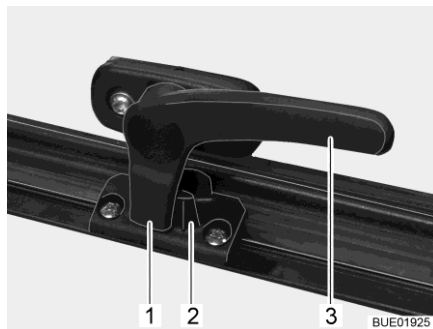

Fig. 21 Catch lever in "closed" position
- Turn the catch lever (Fig. 21,3) a quarter turn towards the centre of the window.
- Turn the catch lever (Fig. 21,3) a quarter turn towards the window frame. The locking catch (Fig. 21,1) is located on the inside of the window catch (Fig. 21,2).
- "Firmly closed" (Fig. 21).